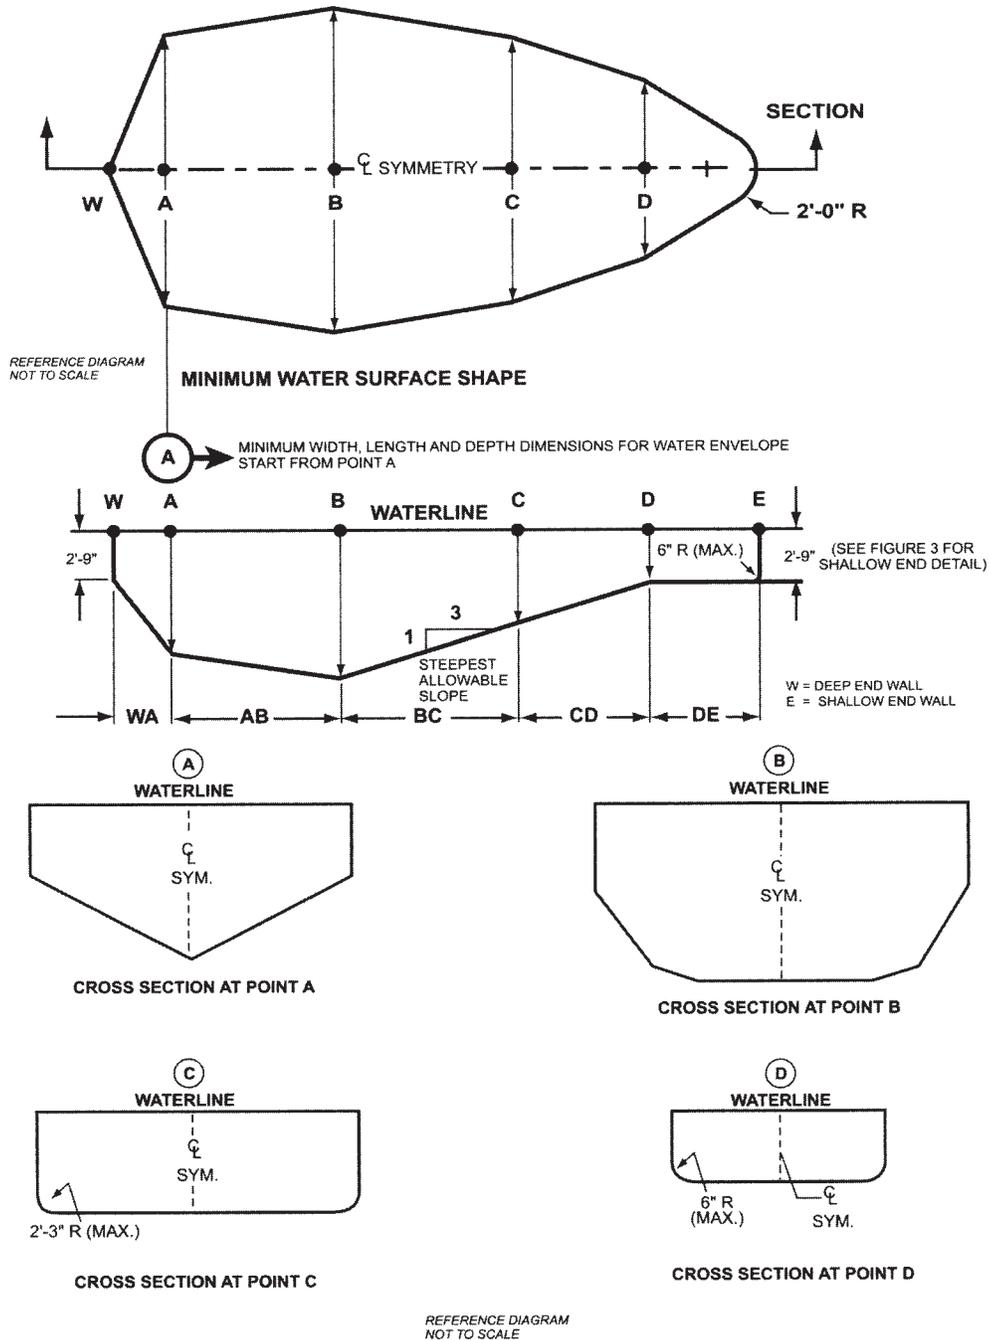

Figure 3 – Minimum water envelope
5.3.3 The walls of Type I pool, when defining the minimum diving water envelope, shall be plumb or outside of Type 1 water geometry. (See figure 3, table 1.)
- Figure 3 drawings are not to scale. (For pool types, see Glossary.)
**5.8.2.1** Diving equipment installation and use instructions shall be provided by the diving equipment manufacturer and shall specify the minimum water dimensions required for each diving board and diving stand combination. They may refer to the water envelopes type of their choice by dimensionally relating their products to Point A on the water envelopes as shown in figure 3 and table 1, 5.9.1 through 5.9.3.
**5.9** Figure 3 contains suggested drawings and diagrams for minimum water envelope for swimming pools designated type I - V. Individual pool types are shown in figure 3 and table 1.
**5.9.1.2** Point A as shown in figure 3 and table 1 shall be the reference point of origin for all dimensions defining the minimum water envelope.